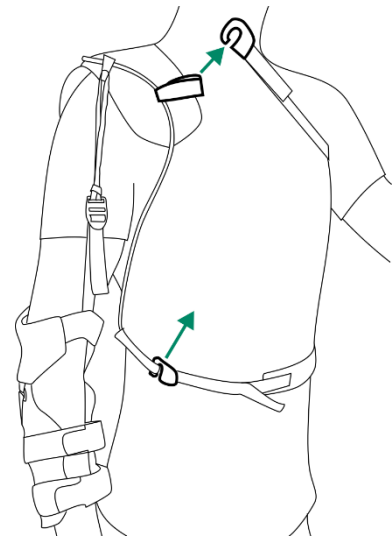

Figure 14
2. Release the upper and lower torso straps by lifting the plastic hooks out of the loops (Fig. 14).